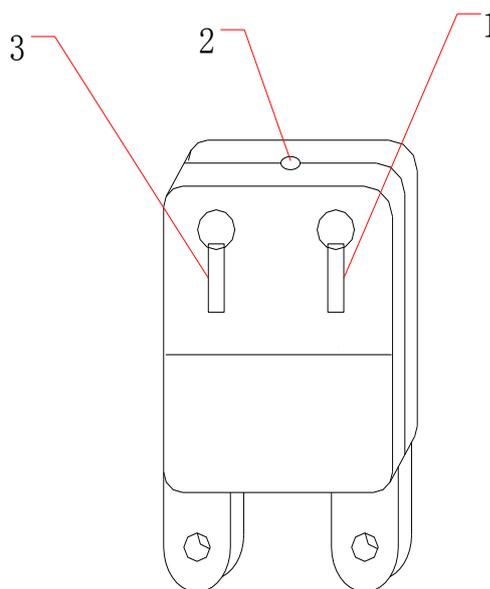
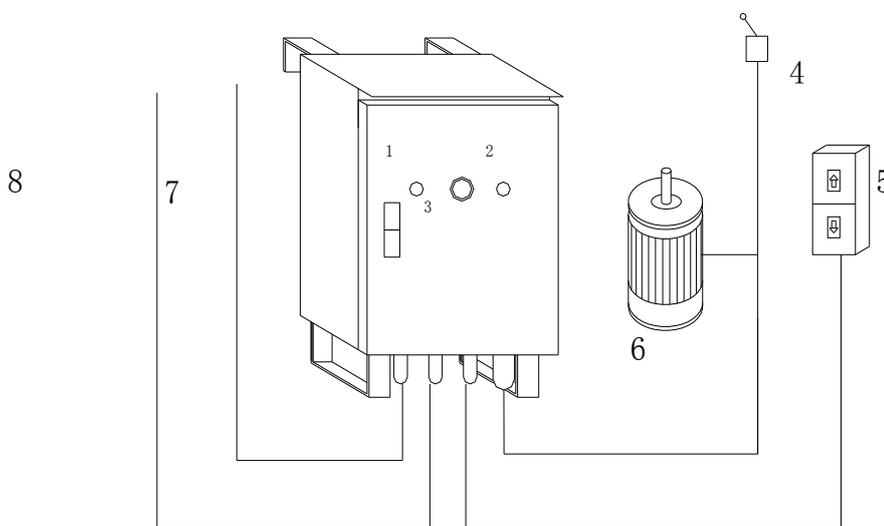

Figure 4: LSL30 Safety Lock
Figure 5: Electric Control System
3.3.1 The hoist for ZLP250 is model LTD6.3. It consists of electromagnetic brake motor, centrifugal speed limiter and dual speed reduction system and “α” cable-guiding system (For details of structure, see attached figure 4 and attached figure 5). The hoist is driven by the electromagnetic brake three-phase asynchronous motor through the worm gear and a pair of reduced gears. The suspended platform will be moved upward and downward with the movement of the hoist.
3.5.1 The schematic diagram and wiring diagram see attached figure 4 and attached 5.